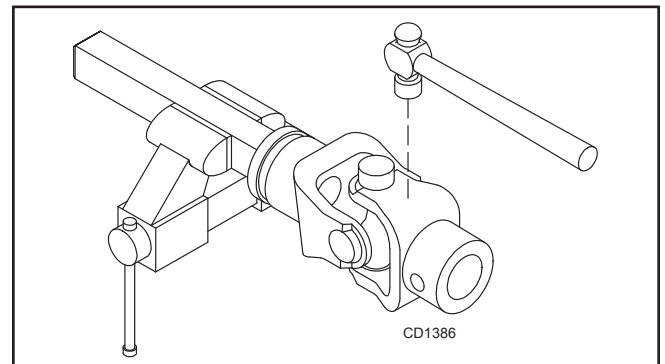

Figure 24. Remove Bearing Cups
2. With snap rings removed, support drive in vise, hold yoke in hand and tap on yoke to drive cup up out of yoke. See Figure 24.